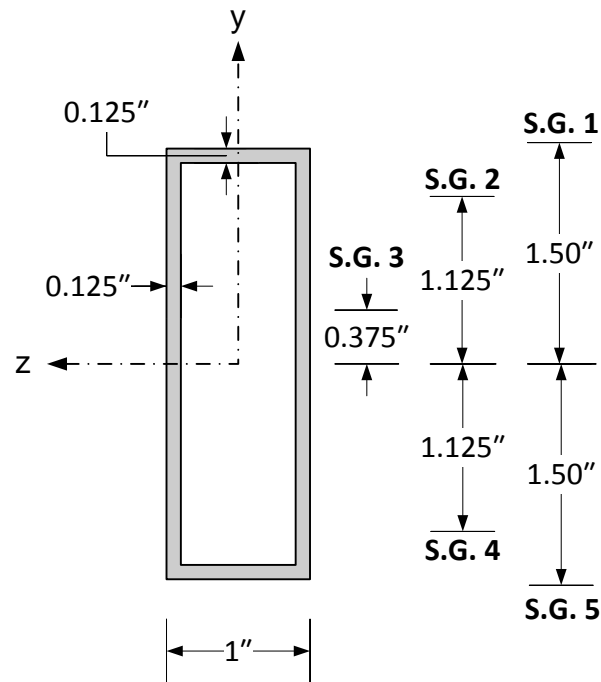

Figure 3: Rectangular hollow cross section and location of strain gauges
1. Calculate the moment of inertia I_z of the beam's cross section (Fig. 3).